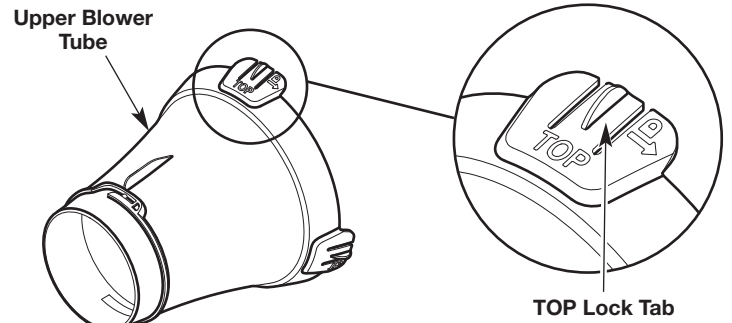

Fig. 1
2. Rotate the upper blower tube so that the TOP lock tab is facing up (Fig. 1).